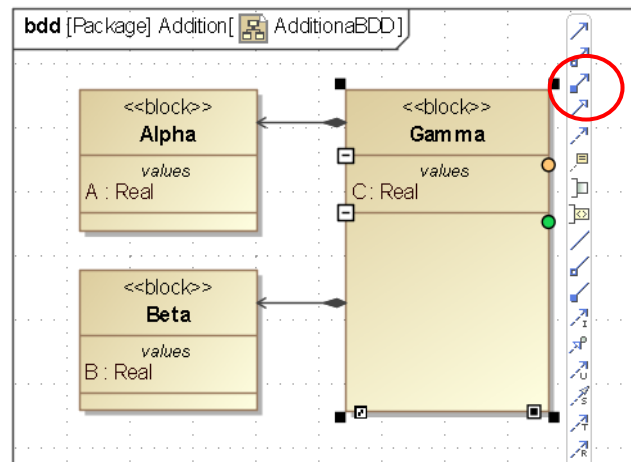

Figure 2.8 Block Definition Diagram with Floating Toolbar and Directed Composition Arrows
- d. Repeat steps a-c for **Beta** (Figure 2.8)